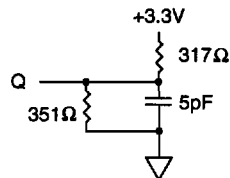

Figure 2
- The load used for V_{OH}, V_{OL} testing is shown in Figure 2. AC load current is higher than the stated DC values. AC I/O curves are available upon request.
2. This parameter is measured with output load as shown in Figure 2.